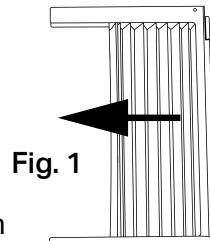

Fig. 1
B. Hold the accordion panel in one hand and gently pull back the center to fill the open end. See Fig. 1.